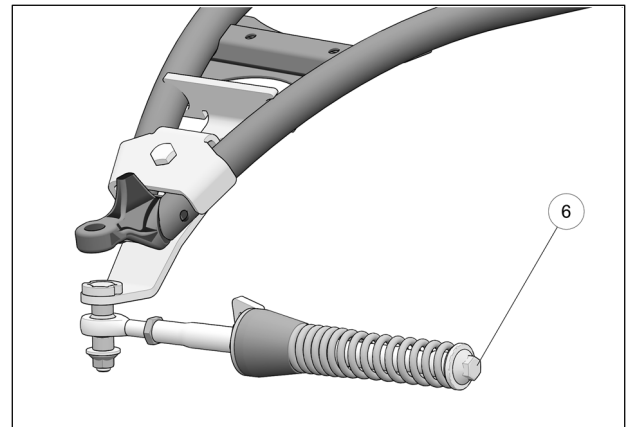

Fig. 17
9. Verify that spring assembly bolt (**6**) is tightened to the recommended torque specification: 75 N•m [55 lb•ft]. Refer to Fig. 17